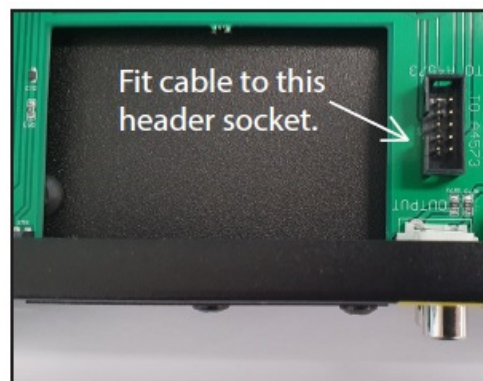

Fig 3
4. Slip the A 4573 through the hole and plug the cable into the header socket as show in figure 3.